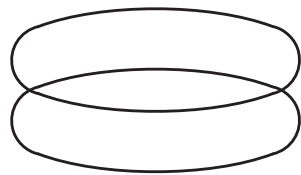

FIGURE 3
5. If pattern shifts in an irregular manner (see Figure 3), turn only one Focus Screw until the patterns are parallel and adjust pattern until the "optimum pattern" has been achieved as described in Step #3.